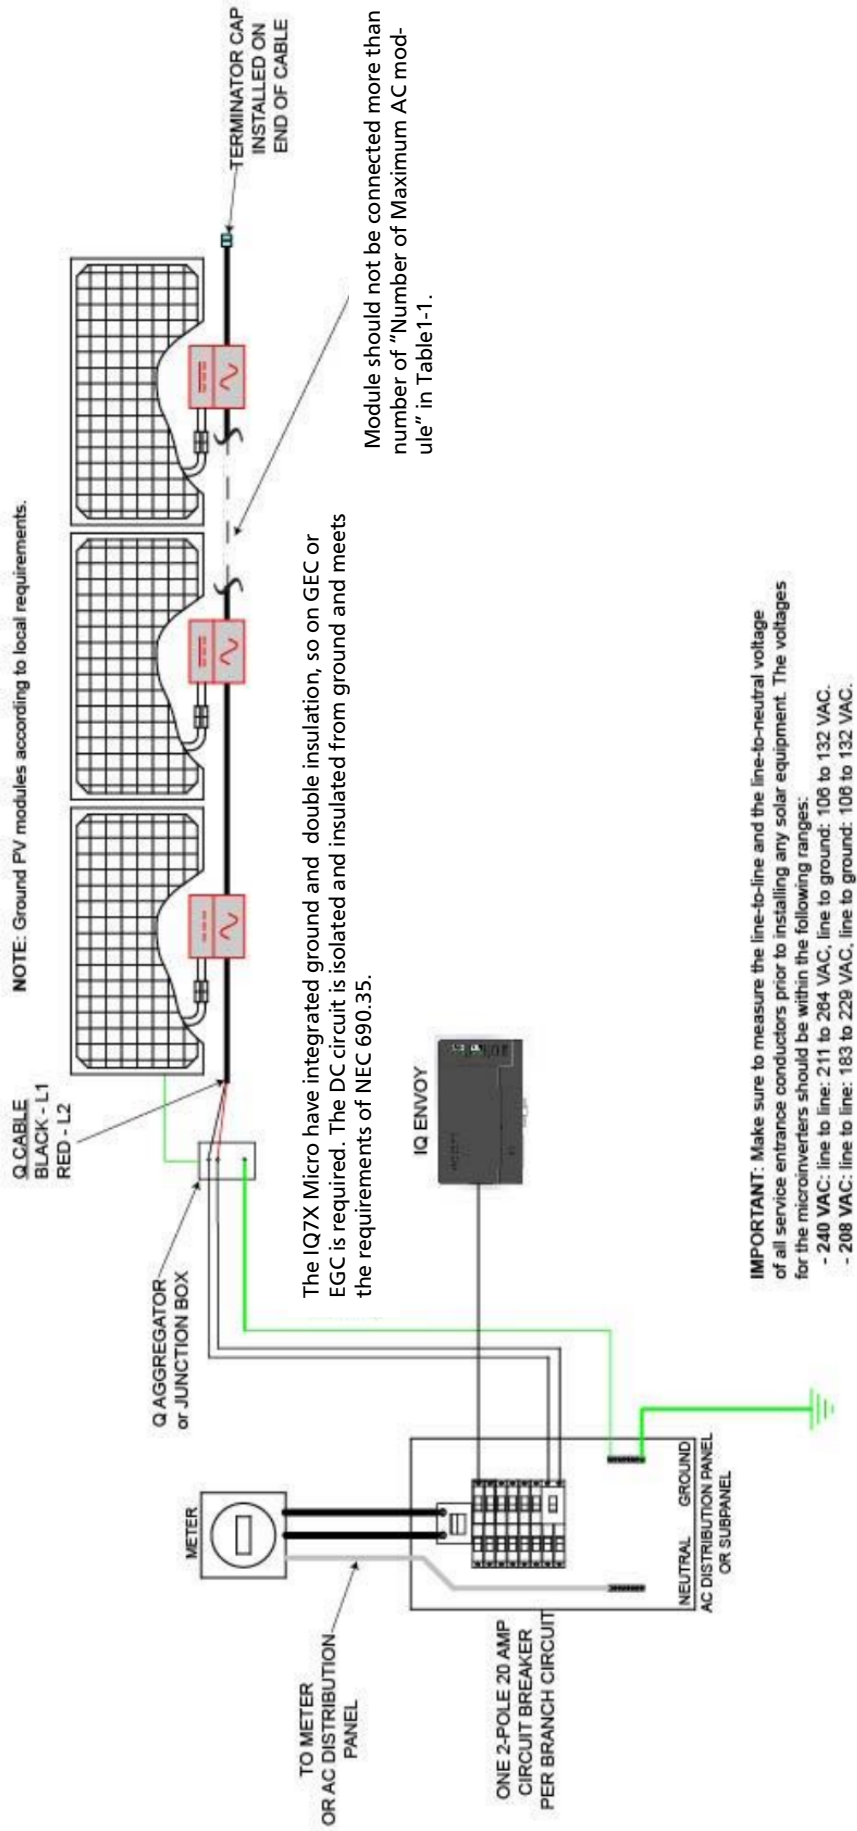

Figure 15. Sample Wiring Diagram
- Refer to the wiring diagrams on Figure 15 for more information. Wire colors are listed in the following table.
- Figure 15 is sample Wiring Diagram.